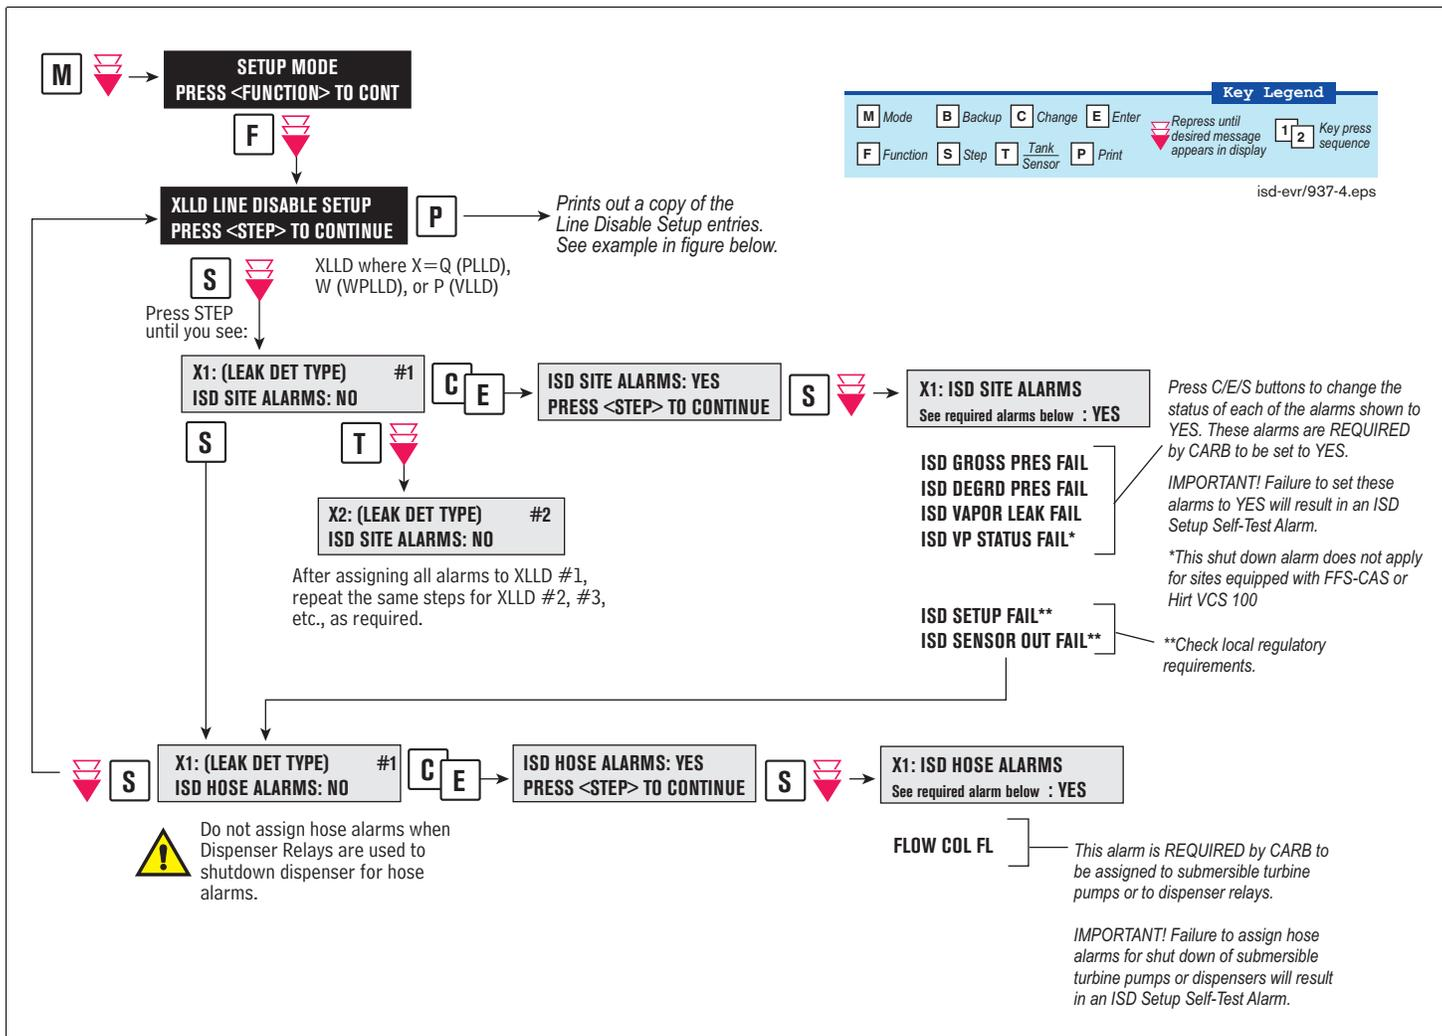

Figure 18. Assigning ISD Shut Down Alarms in Line Leak Disable Setup
- For ISD sites with line leak detection - XLLD Line Disable Setup (go to Figure 18)
Figure 18 illustrates the setup steps required to assign ISD Shut Down Alarms to a tank having a line leak detection system installed.